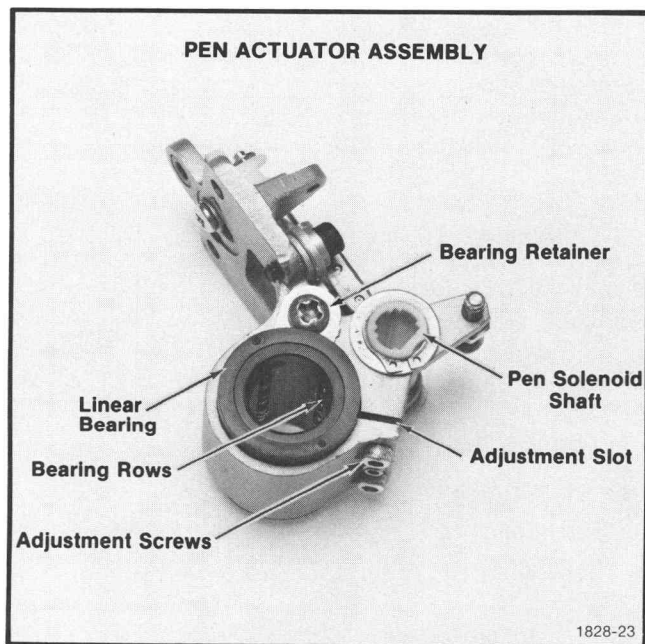

Fig. 3-23. Linear Bearing Adjustments.
The linear bearing is the sleeve of the pen actuator assembly that rides along the front X axis shaft (not the pen solenoid shaft). See Fig. 3-23. For adjustment or replacement, it is necessary that the pen carriage and front axis shafts be disassembled.
3. Rotate the linear bearing in the pen assembly to align the bearing rows equidistant about the adjustment slot. See Fig. 3-23.